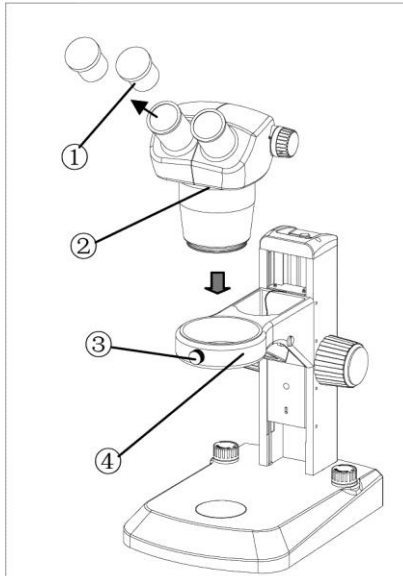
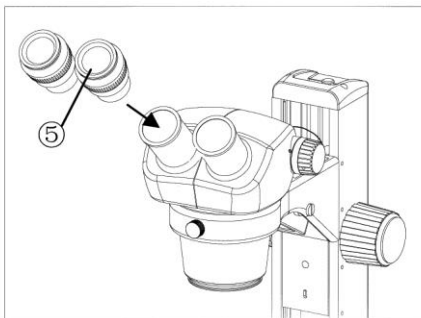
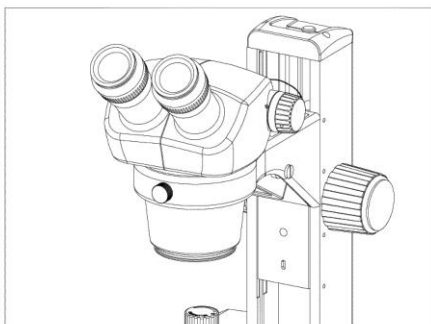

Fig. 1
Fig. 2
Fig. 3
Mounting the Binocular/Trinocular Head (Fig.1)
Mounting the Eyepieces (Fig.1, Fig.2, Fig.3)
Remove the eyepiece dust caps ① (Fig. 1) and gently insert the two adjustable eyepieces ⑤ (Fig. 2) into the eyepiece sleeves until they stop, as shown in Fig.3. Using the 1.5mm allen key, tighten the allen screws on the eyetubes to lock the eyepieces into the tubes.